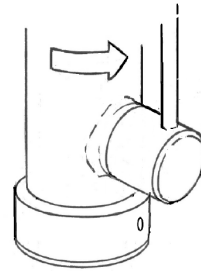

Fig.14b: Faucet in locked position
9. Push the faucet body onto the mounting console and rotate counter clock to lock the faucet body in the console, as shown in figure 14b. Do not force the connection, if unreasonable forced is required, check if anything is wrong and retry.